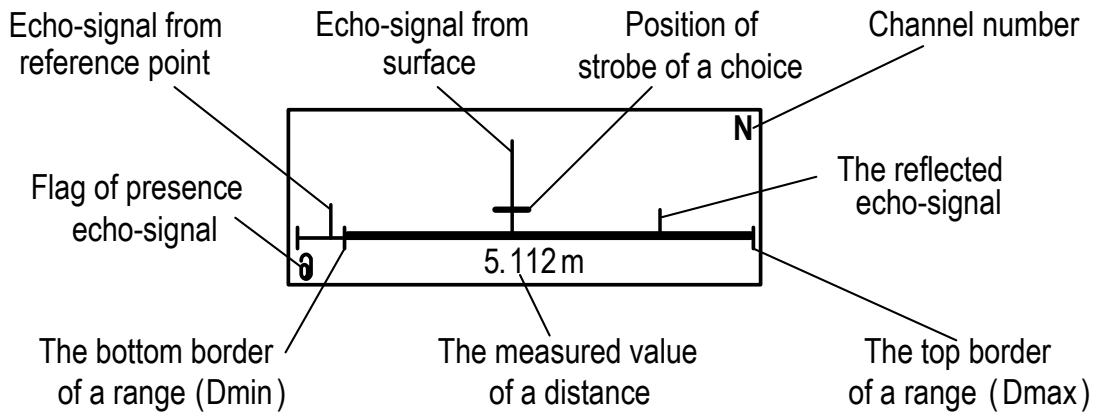

Fig. 2. Signal view window.
- 1.1.8. Registered signals that fall inside the preset measurement range can be displayed in graphical form. Signals are displayed in **Signal view** window (**Settings** / **Object settings**) according to the time of registration (see Fig.2).